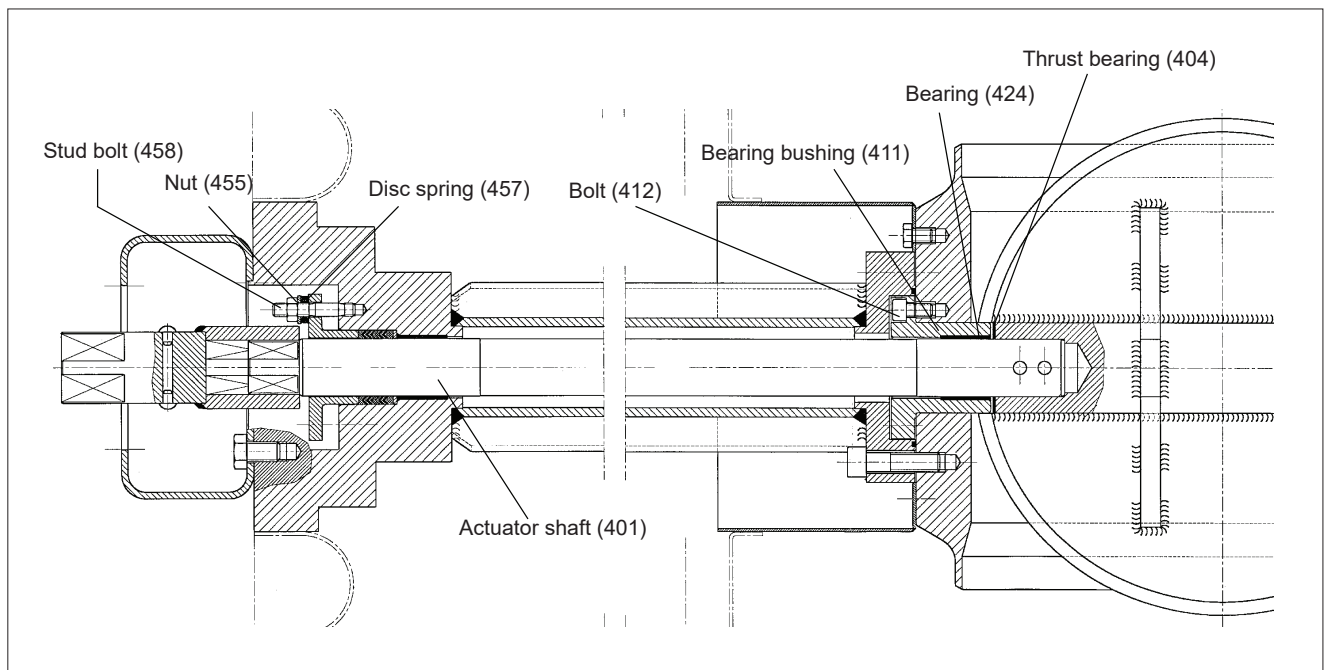

Fig. 7 Cross section view extension at actuator side
- Start off by removing the actuator and the bracket (501) and by pulling the coupling (504) off.
- Remove the nut (455), the washer (456) and the disc spring (457) and pull the gland (450) out.
- Undo the bolt (412). You can now pull the extension (102) off over the valve drive shaft (401). (see Figure 7 – cross section view extension)
- Unscrew hexagon socket screw (412) and remove bearing bushing (411).
- The following parts are now accessible and can be replaced if necessary: the gland packing (451) the bearing (425) the O-ring (107).
- The bearing bushing (424) and the thrust bearing (404) can be removed.